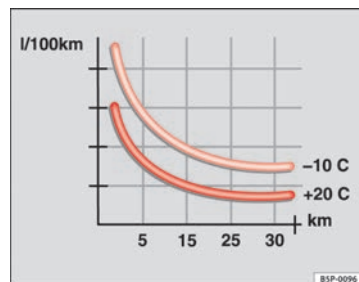

Fig. 157 Fuel consumption in litres per 100 km (mpg) at different outside temperatures
- Fig. 157 shows the difference in consumption for the same journey at +20 °C (+68 °F) and at -10 °C (+14 °F).